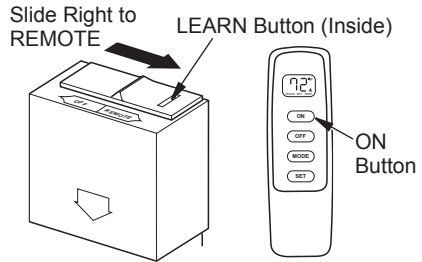

Figure 9 - Receiver and Remote Control Setup
1. Set receiver selector switch to the remote position (see Figure 9).
2. Push the ON button on hand-held remote control. You should hear a beep. If not, use a dull object to push the LEARN button in the receiver (see Figure 9). Push the ON button on remote control once again. You should hear a series of beeps.